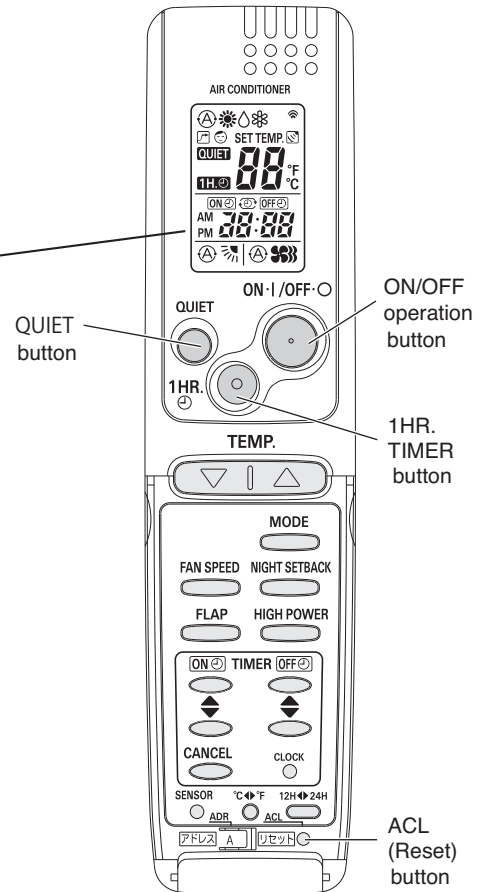

Fig. 64
- (5) "oP-7" has now been selected for address setting.
- (6) Press the ON/OFF operation button on the remote controller. (Fig. 64) Check that the "beep" signal-received sound is heard from the second indoor unit (approximately 5 times). The sound you hear is the signal that the remote controller address has been changed.
- (7) Finally press the remote controller ACL (Reset) button to cancel the blinking "oP-7" display. (Fig. 64)